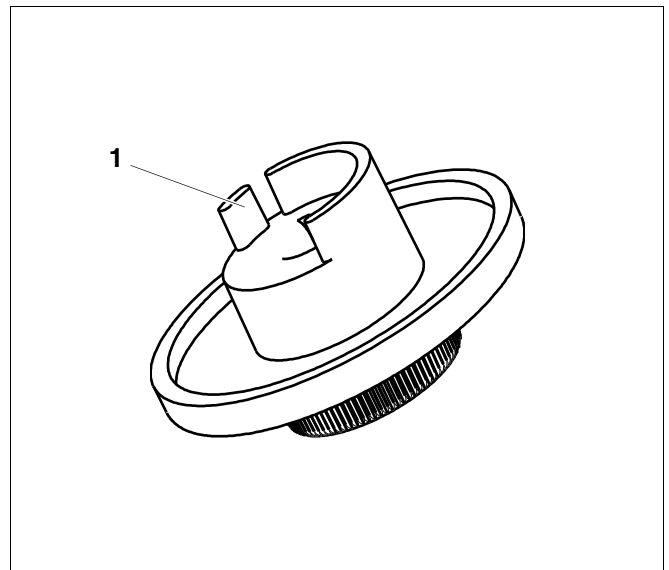

Fig. 4 Rotary selector
- Break off end stop tabs (→ Fig. 4, [1]).